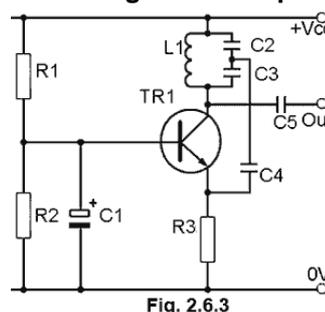

Fig. 2.6.3
5. Refer to Fig. 2.6.3. Which of the following governs the proportion of signal used as positive feedback?
7. Refer to Fig. 2.6.3. Which of the following actions would increase the frequency of the oscillator?